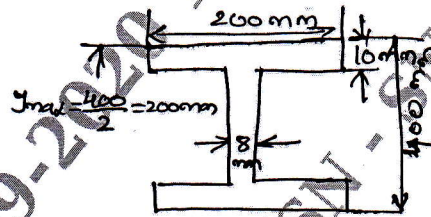

Fig.Q6(b)
b. The cross section of beam as shown in Fig.Q6(b). If permissible stress is  $150 \text{ N/mm}^2$ . Find its moment of resistance compare it with equivalent section of same area for a square section.